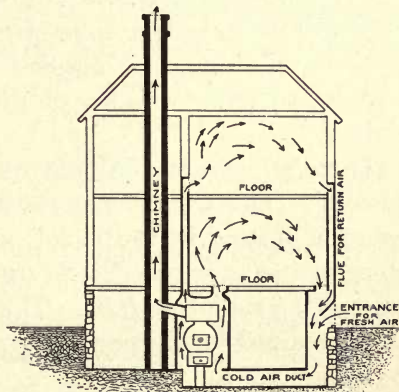

FIG. 127.
**Hot-air Heating.**—This system is in quite common use in small buildings. It consists of a furnace which heats the air in a chamber (Figure 127) surrounding the fire box.